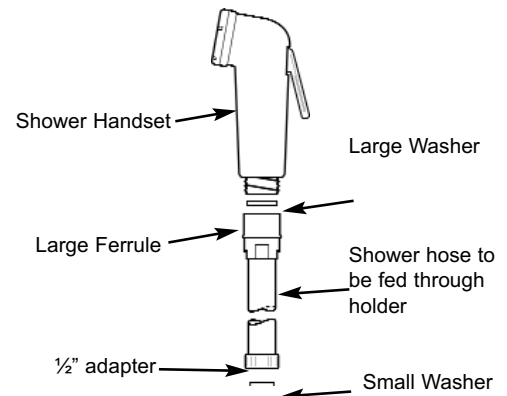

Fig 3 Handset
1. Place a large washer into ferrule on hose assembly and tighten into shower handset (See Fig 3)